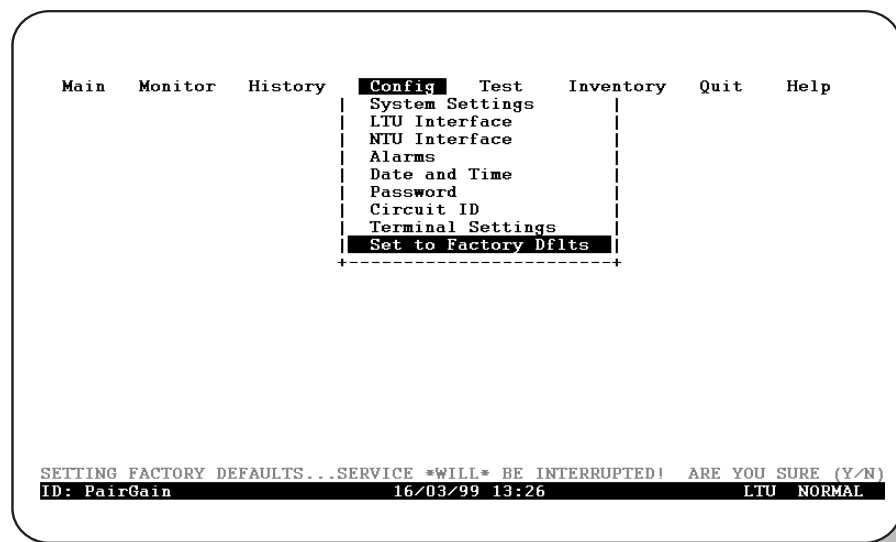

Figure 30. *Set to Factory Defaults Screen*
- 1 Type **F** at the *Config* drop-down menu to display the *Set to Factory Dflts* screen (Figure 30).